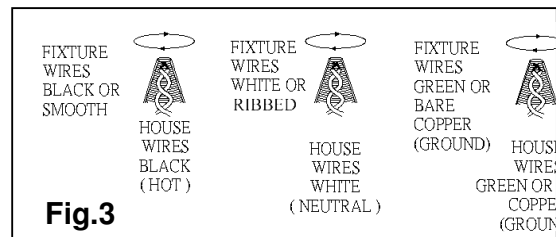

Fig.3
CONNECTING THE WIRE (See fig.3)
1. At this point, connect the electrical wires as shown in Fig. 3, making sure that all wire connectors are secured. If your outlet box has a ground wire (green or bare copper), connect the fixture's ground wire to it. Otherwise, connect the fixture's ground wire directly to the mounting plate using the green screw provided.
2. Tuck the wire connectors neatly into the ceiling outlet box and raise the canopy (U) and collar ring (Y). Then thread collar ring (Y) onto collar loop (T) protruding through canopy.